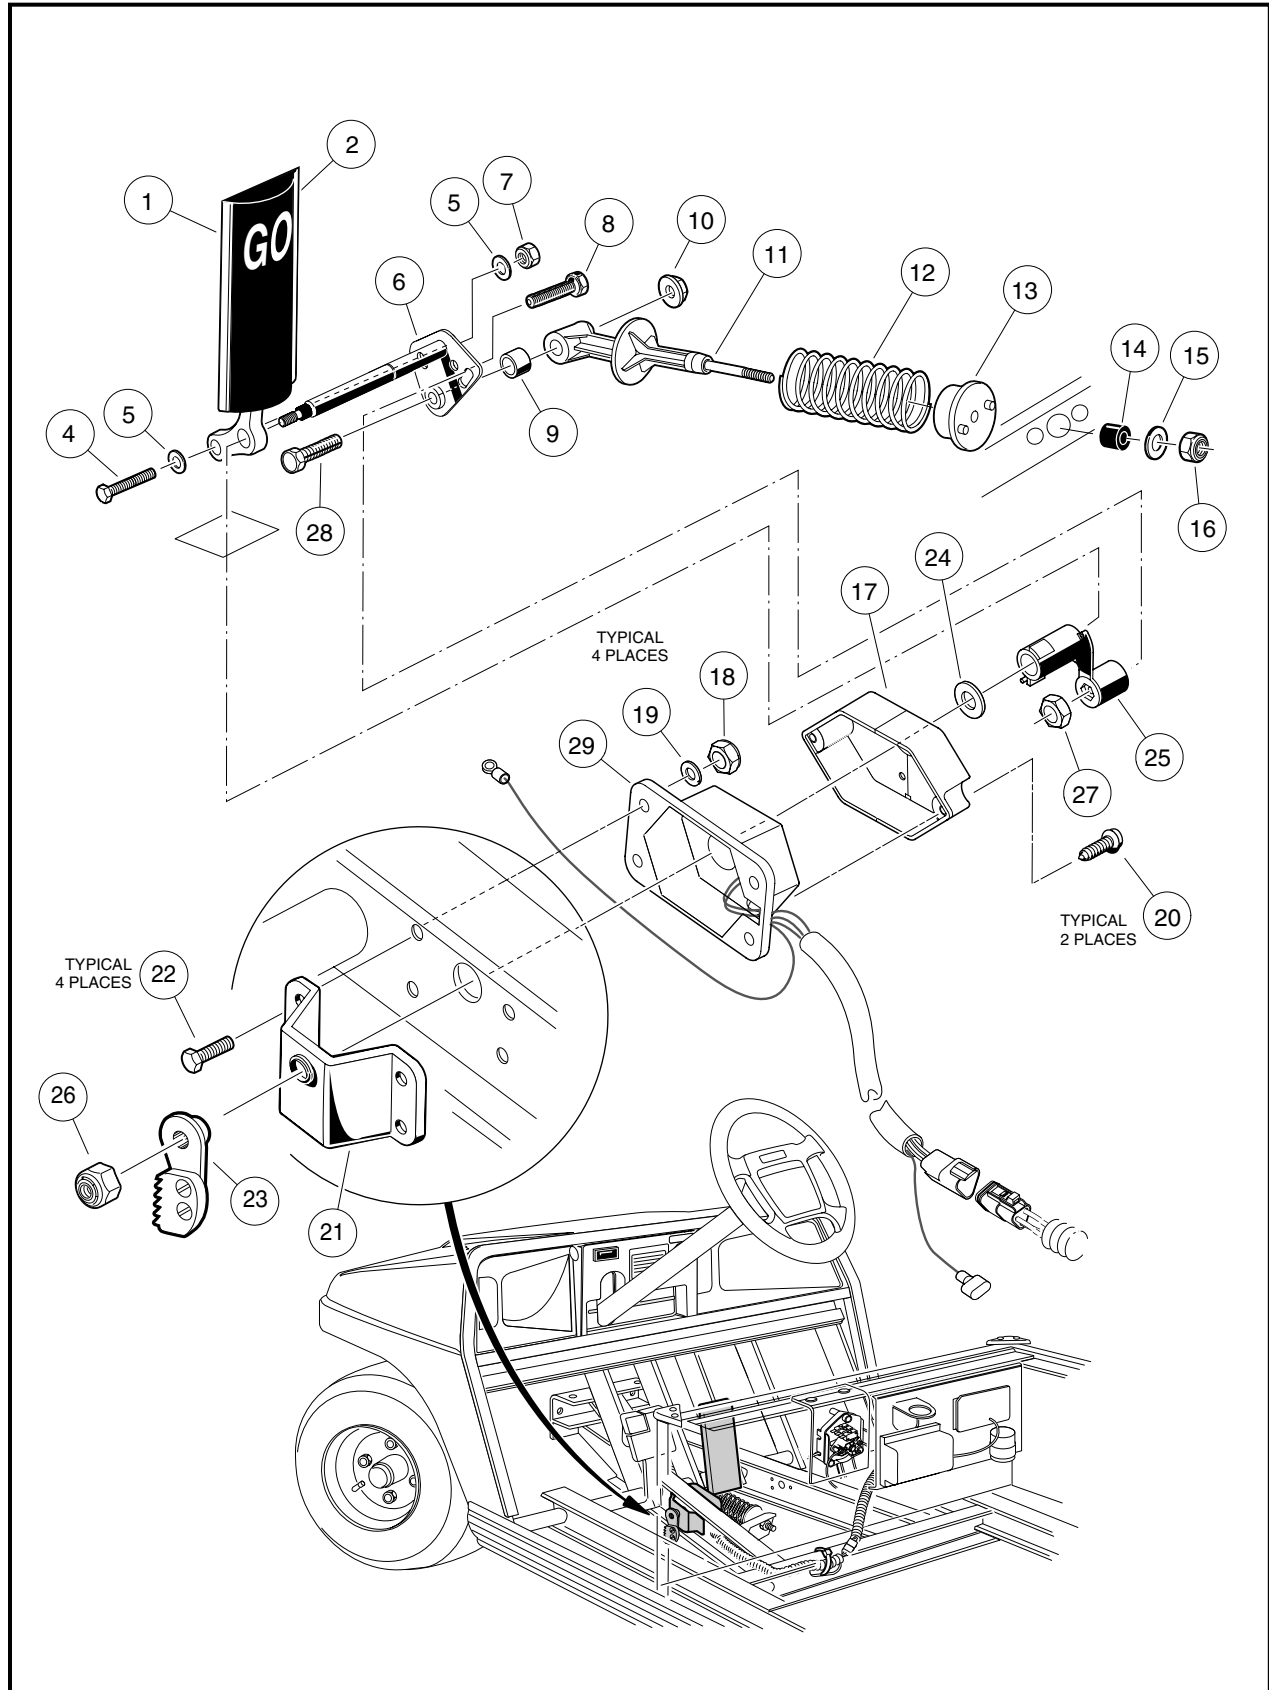

Figure 5-21 Accelerator Pedal – Electric Vehicle with Continuously-Variable Potentiometer
- 5.7. Rotate the actuator lever (25) on the pivot rod weldment (6) clockwise until the red LED is illuminated (limit switch clicks ON). Then rotate the actuator lever (25) on the pivot rod weldment (6) counterclockwise just to the point at which the red LED on the CTM goes out (limit switch clicks OFF) (**Figure 5-21, Page 5-24**).